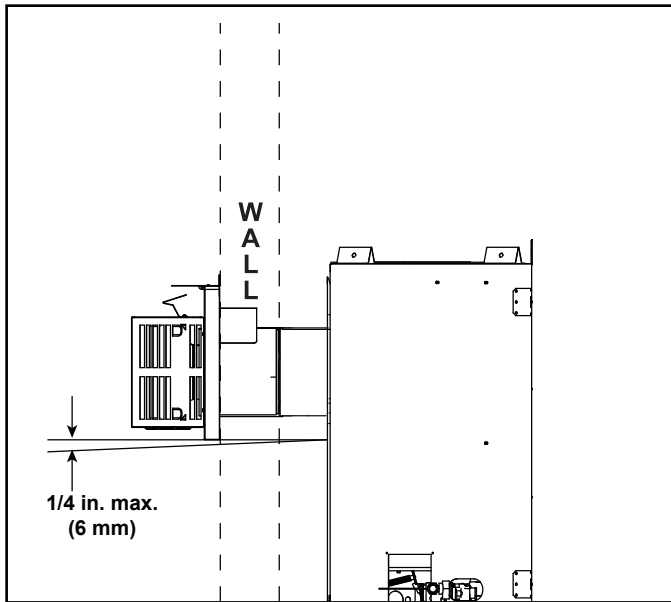
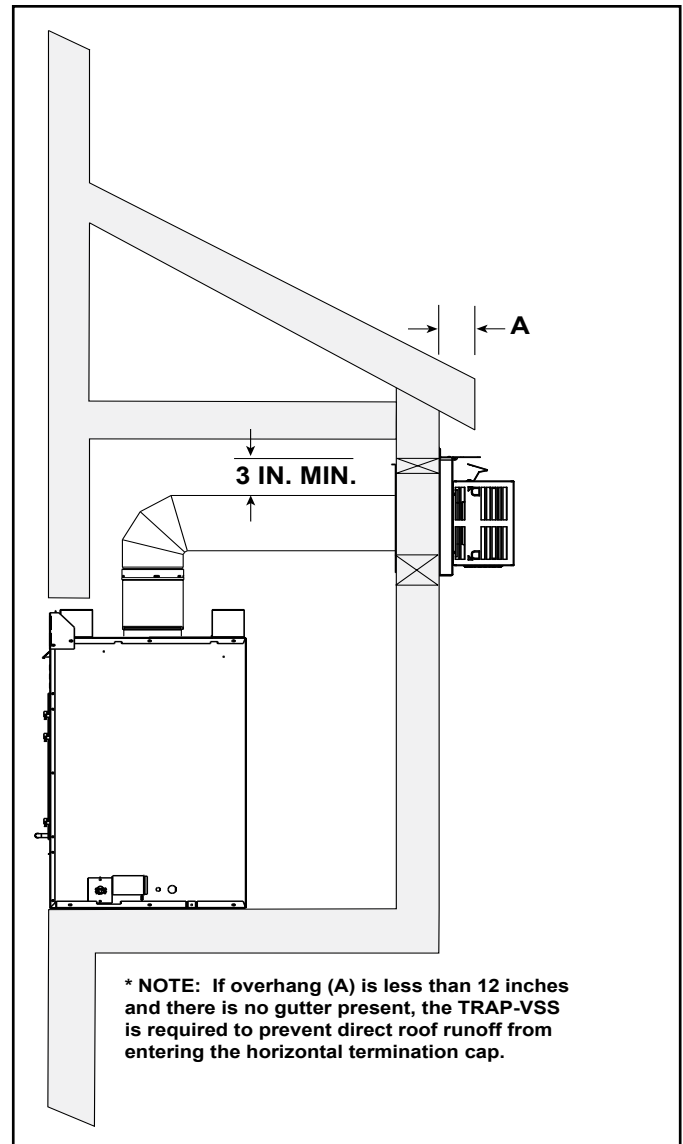

Figure 4.7 Water Infiltration Prevention
Figure 4.8 Exterior Chase - Water Infiltration Prevention
- When the horizontal termination cap is exposed to high precipitation, the cap should have a 1/4 inch downward slant to allow any moisture in cap to be released. See Figure 4.7. See Figure 4.8 for additional water infiltration prevention.